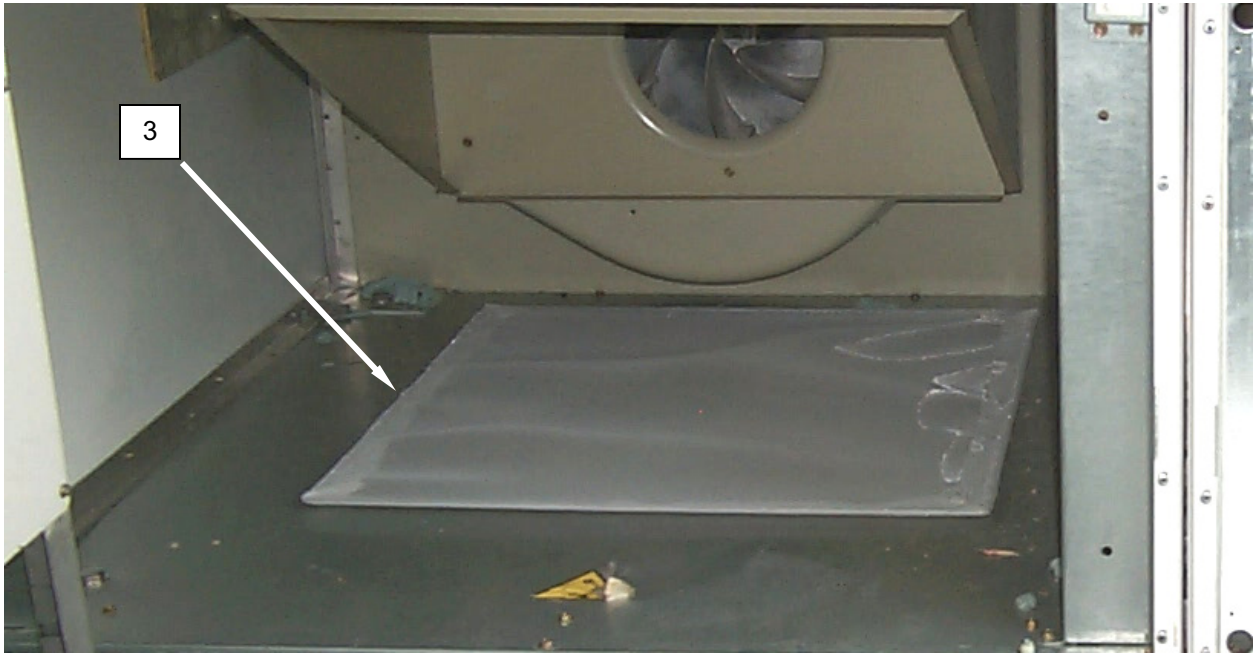

Figure 3. Remove Lint Screens.
7. Remove lint screens (**Figure 3, Item 3**) and lay flat.